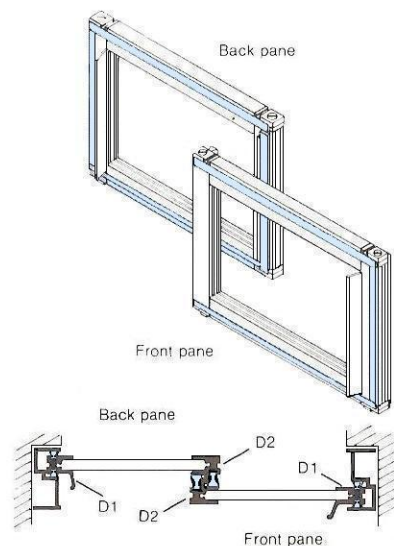

Figure 14
2. Use Section D2 on the edge that will be at the centre of the window (Figure 14).